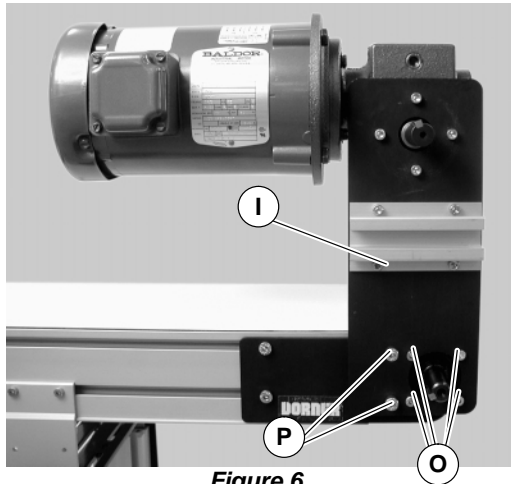

Figure 6
- Attach mount assembly (I of Figure 6) with two (2) M8 screws (P) and four (4) M6 screws (O). Tighten M6 screws (O) to 146 in-lbs (16.5 N-m) and M8 screws (P) to 288 in-lbs (32.5 N-m).